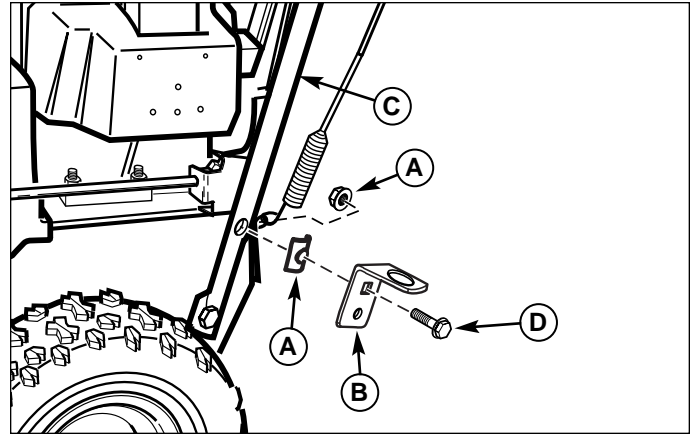

Figure 5. Mounting Lower Bracket (Tube Handle)
1. Remove existing hardware (A, Figure 5) from upper hole on left side handle (C) as shown. Discard cap-screw (D).
2. Using square hole install lower bracket (B) into upper hole on left side handle (C) as shown. Secure with new 5/16-18 x 2 capscrew (D) and nut (A).